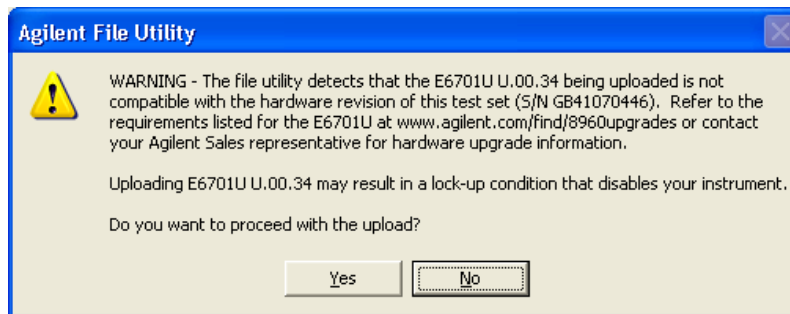

Figure 10: Upload Warning Window
- l. The file utility checks for hardware and Lab App compatibilities. If problems are identified, an Agilent File Utility window displays, as shown in Figure 10.